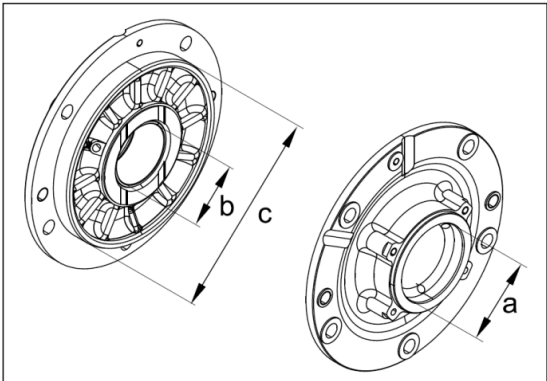

Fig. 9.20
3. Measure with dial gauge bearing and seal ring housing diameters a-b at three different heights and check support locating diameter (Fig. 9.20)